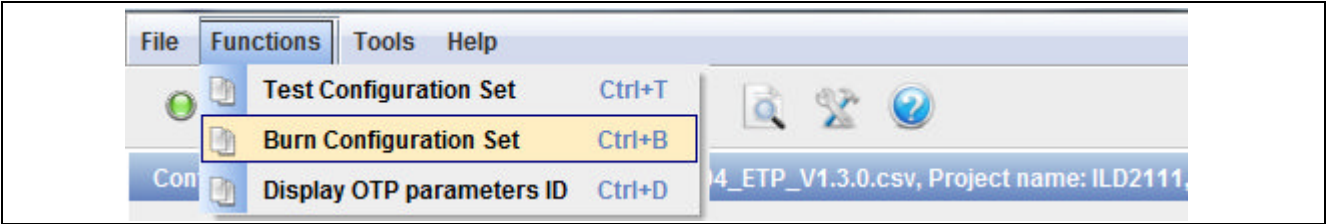
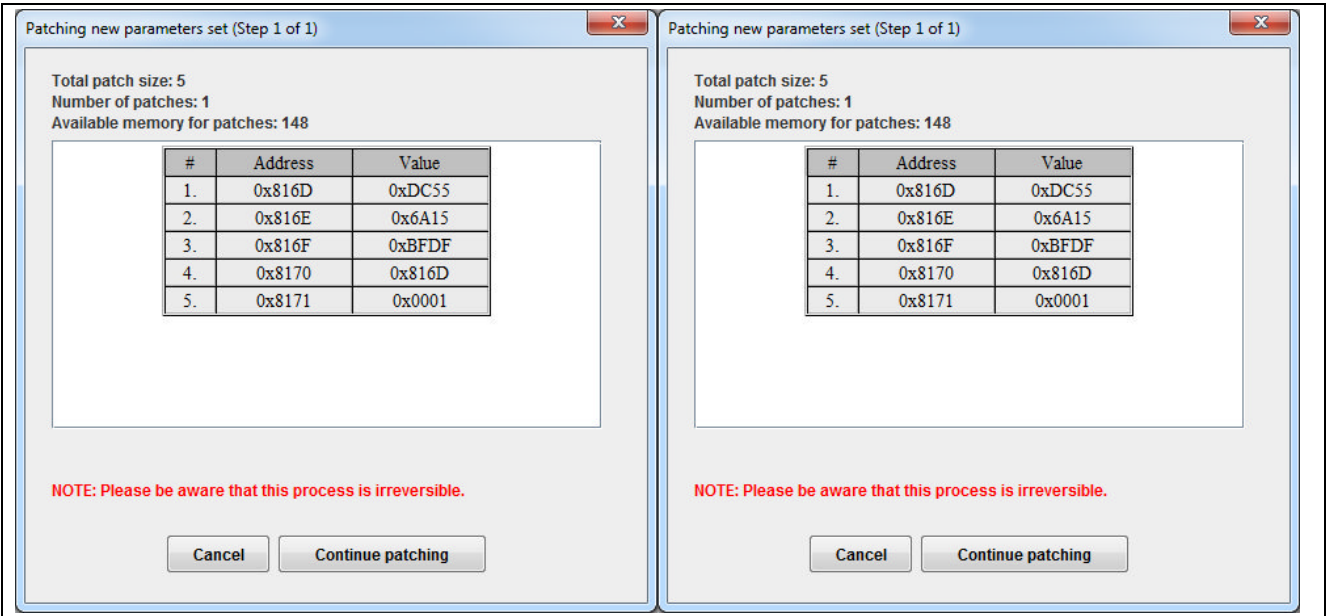

Figure 48 Burning a New Parameter Patch
Figure 49 Patch Structure
3. Select “Functions -> Burn Configuration Set” to burn the appropriate patch – see Figure 48. The complete patch structure will be displayed as shown in Figure 49. In this figure, the two structures that represent examples of one or two patches can be seen.